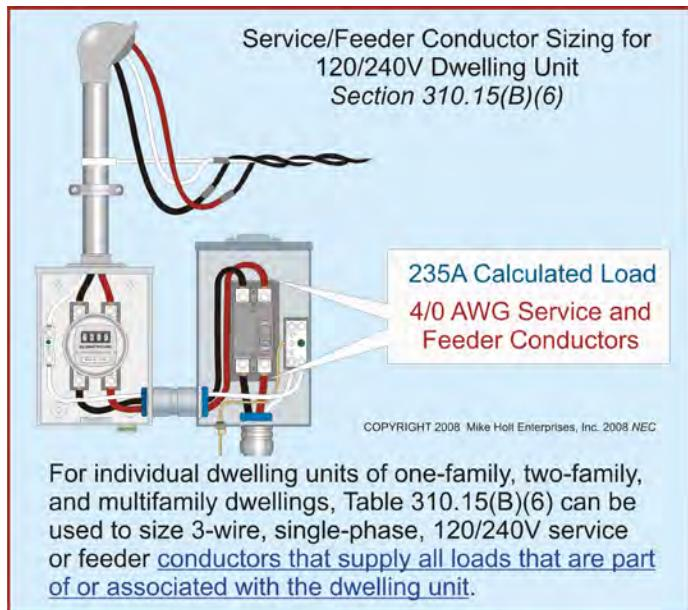

Figure 310-18
(5) Grounding Conductors. Grounding and bonding conductors aren't considered current carrying.
(6) Dwelling Unit Feeder/Service Conductors. For individual dwelling units of one-family, two-family, and multifamily dwellings, Table 310.15(B)(6) can be used to size 3-wire, single-phase, 120/240V service or feeder conductors that supply all loads that are part of, or associated with, the dwelling unit. **Figure 310-18**